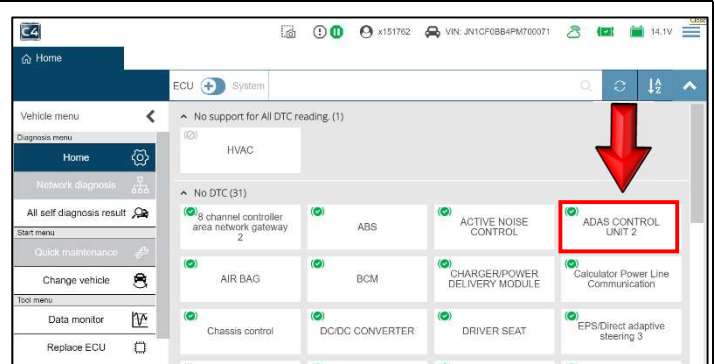

Figure 33
30. Locate and select **ADAS CONTROL UNIT 2**. (Figure 33)